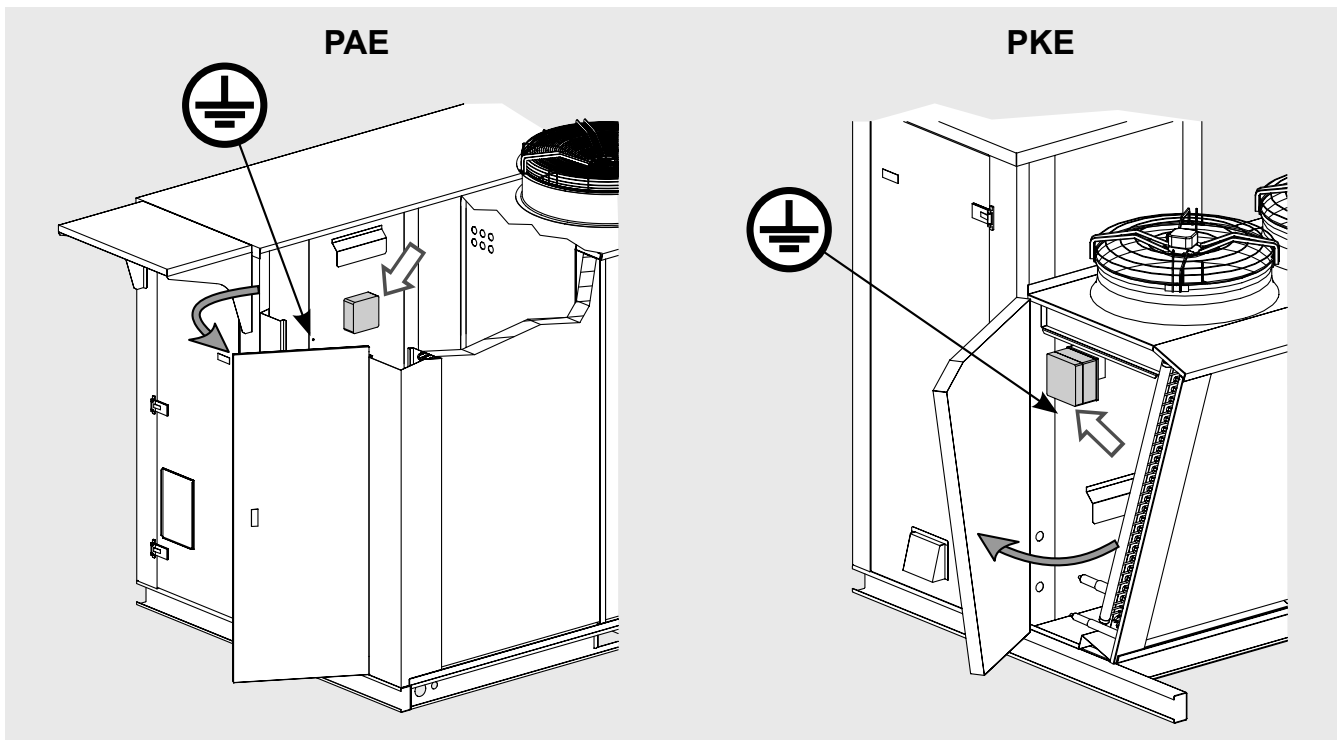

Figure 17
- 8.9 To minimise the risk of indirect contact, the electrical system can be earthed using the relevant pin (see "Figure 17").